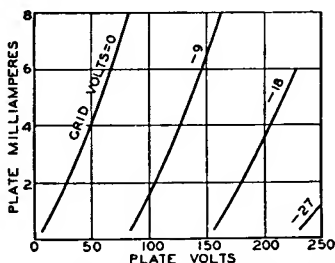
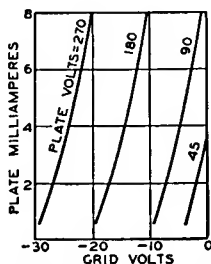

Fig. 11—Family of plate-characteristic curves.
Fig. 12—Family of transfer-characteristic curves.
**Static characteristics** may be shown by plate characteristics curves and transfer (mutual) characteristics curves. These curves present the same information, but in two different forms to increase its usefulness. The plate characteristic curve is obtained by varying plate voltage and measuring plate current for different grid-bias voltages, while the transfer-characteristic curve is obtained by varying grid-bias voltage and measuring plate current for different plate voltages. A plate-characteristic family of curves is shown in Fig. 11. Fig. 12 gives the transfer-characteristic family of curves for the same tube.